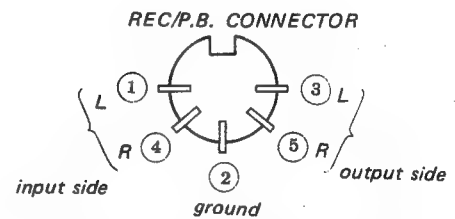

Fig. 12-35 REC/P.B. connector (back view)
- (1) Deliver a 1 kHz signal of -33 dB (17.5 mV) to terminal No. ① (L-CH) or ④ (R-CH) of the rec./p.b. connector shown in Fig. 12-35.
- (2) Place the machine in record mode.
- (3) Be sure that the reading on the VTVM connected to the terminal No. ③ (L-CH) or ⑤ (R-CH) of the rec./p.b. connector is -5 ~ -1 dB (0.44 ~ 0.7 V).
- (4) Set the MIC VOLUME to the maximum position and adjust the signal level of the audio oscillator to obtain 0 dB (0.775V) on the VTVM and be sure that the signal level on the audio oscillator is less than -40 dB (7.7 mV).